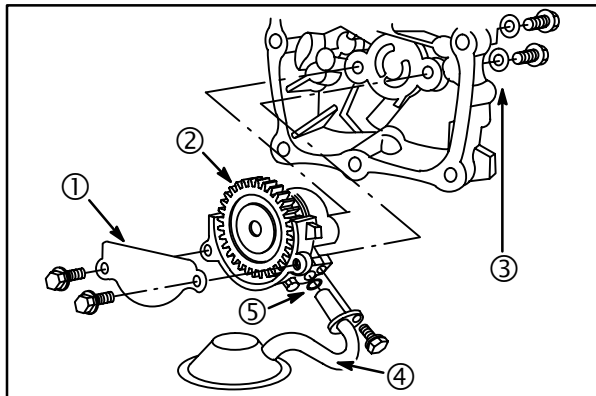

Fig. 6
1. Install a new O-ring (5) to the pickup tube and screen assembly (4). Install the pickup tube assembly to the oil pump (2), **Fig. 6**.
2. Install oil pump assembly and gear baffle (1), to crankcase. Use new O-rings (3) under the screws.